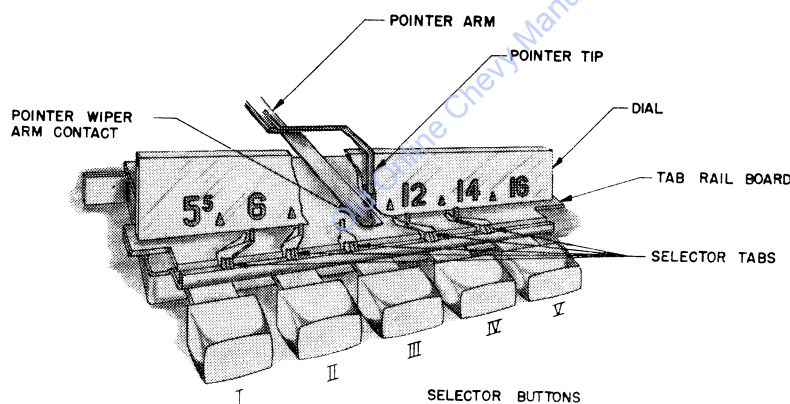

Fig. 8
4. The dial pointer will scan the dial as the tuner sweep cycle takes place (See Fig. 8). The pointer wiper arm contacts the selector tab corresponding to the depressed selector button, the pointer wiper arm, being grounded, completes the electrical circuit required to stop the tuner on stations.